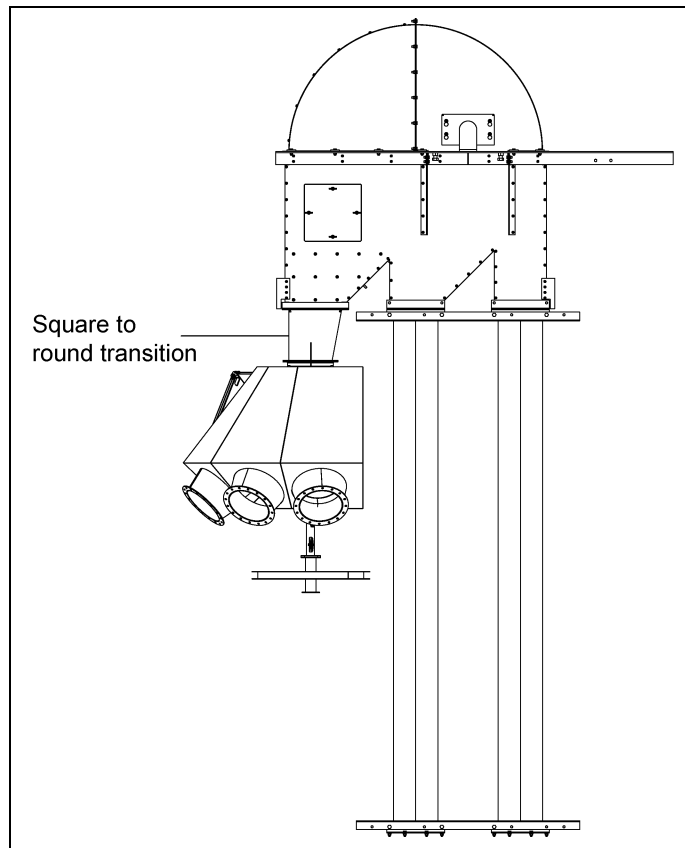
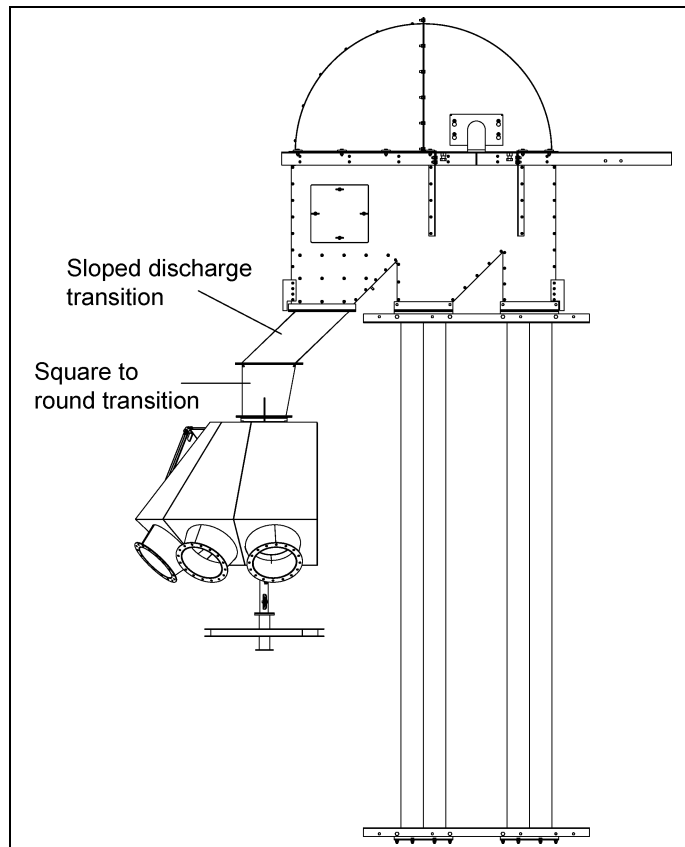

Figure 3A
Figure 3B
* The offset transition allows clearance between the bucket elevator and the distributor. The transition also keeps the distributor outlet spouting from interfering with the ladder safety cage. Transitions must be installed for proper distributor operation. (See Figure 3A and Figure 3B on Page 10.)